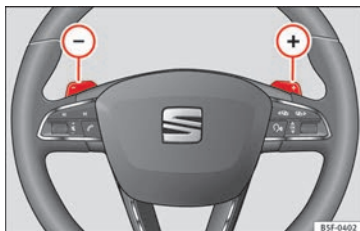

Fig. 193 Steering wheel: automatic gearbox levers
- Press the gearshift paddle  to select a higher gear » **Fig. 193**.